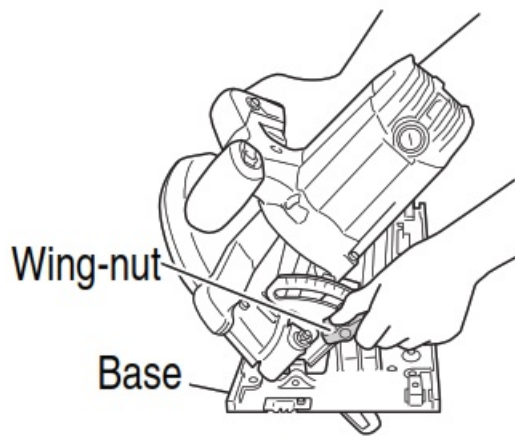
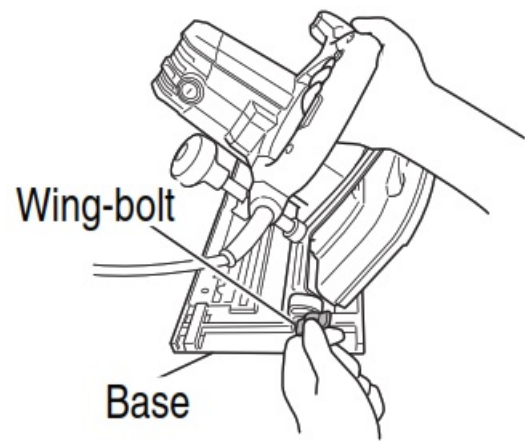
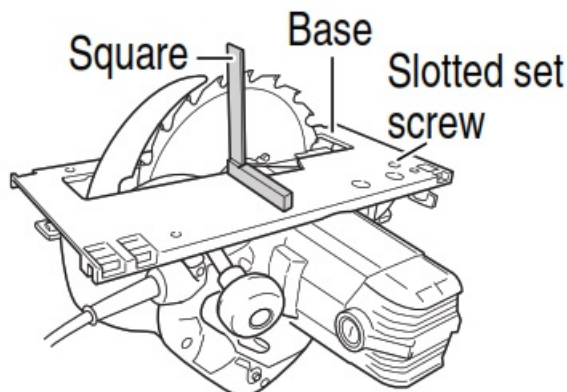

Fig. 6
Fig. 7
Fig. 17
As shown in Fig. 6, and Fig. 7 by loosening the wing nut on the incline gauge and the wing bolt on the base, the saw blade may be inclined to a maximum angle of 45° in relation to the base. After having completed the adjustment, reconfirm that the wing-nut and the wing-bolt are firmly tightened?
(1) Turn the base face up (Fig. 17) and loosen the wing nut and wing bolt (Fig. 6, 7 on page 25).